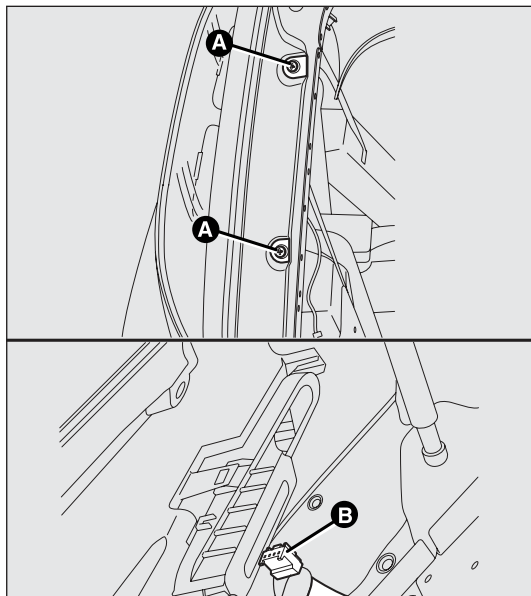

fig. 169
The bulbs are arranged inside the light cluster fig. 169 as follows:
- ☐ undo both fastening bolts A-fig 169;